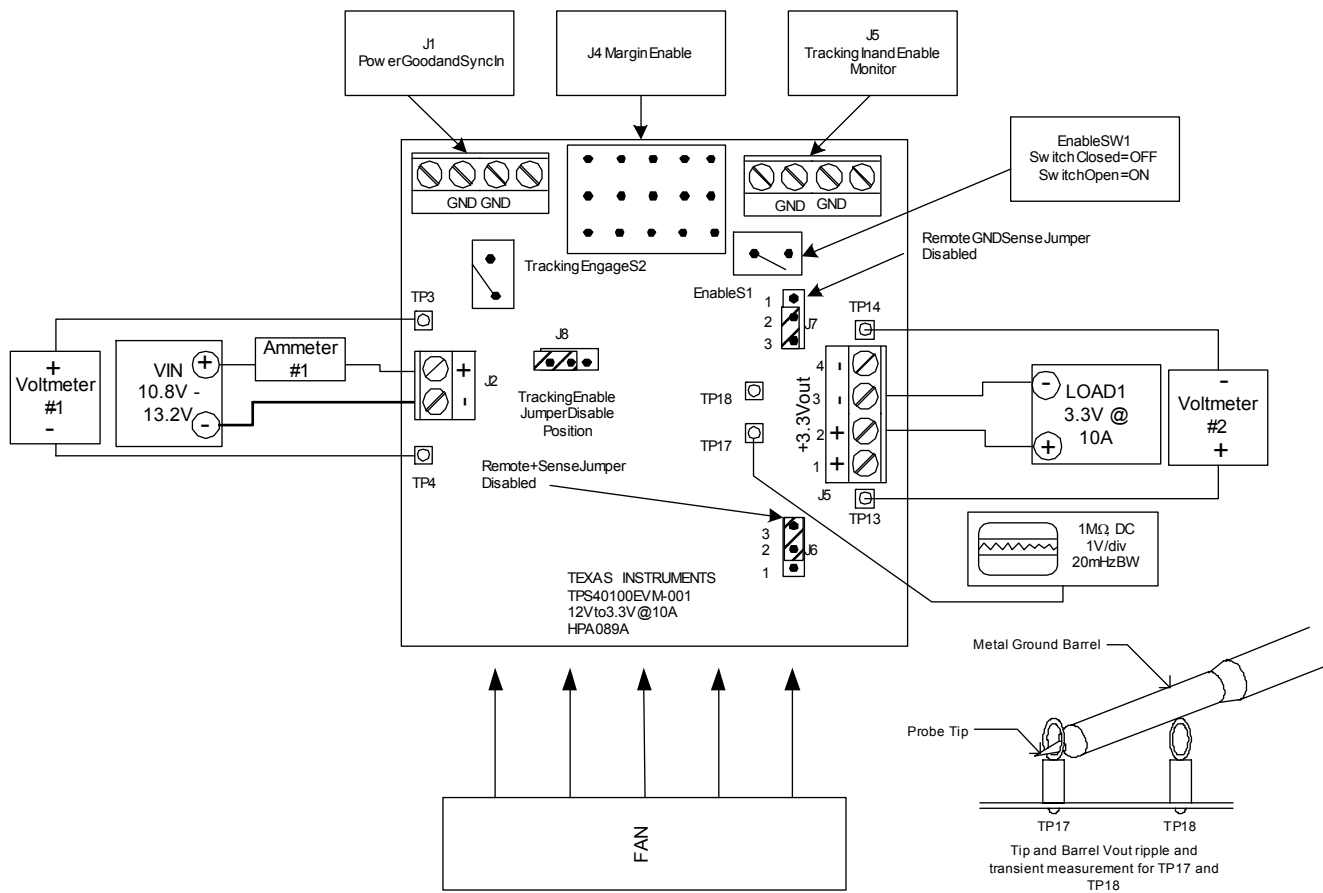
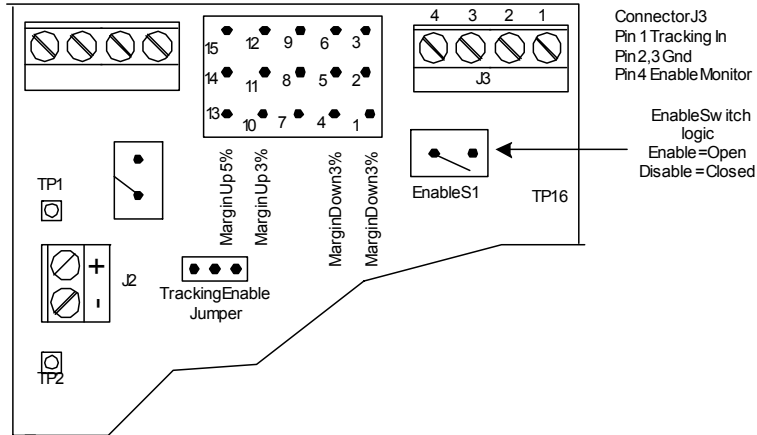
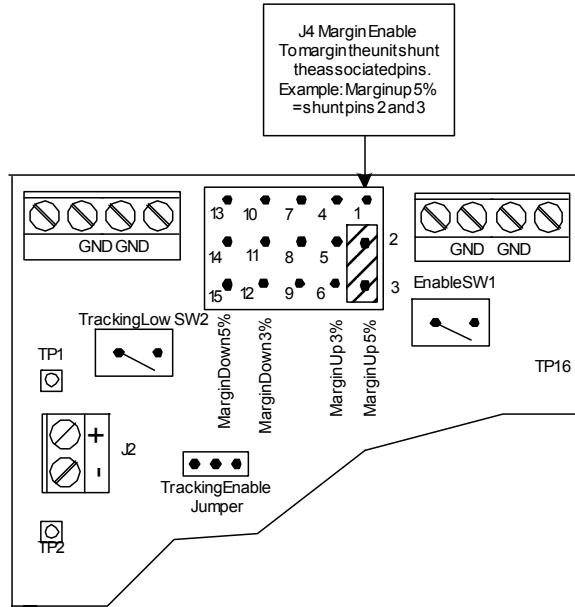

Figure 4: TPS40100EVM-001 Recommended Test Set-Up
Figure 10: TPS40100EVM-001 Enable Test Set-Up Test Set-Up
Figure 12: TPS40100EVM-001 Margin Test Set-Up
Figure 4 is the basic test set up recommended for evaluating the TPS40100EVM-001. EVM is shipped with the following in the default position:
2. Prior to connecting the DC input source, VIN, it is advisable to limit the source current to 5.0A maximum. Make sure VIN is initially set to 0V and connected as shown in Figure 4.
8. Place Fan as shown in Figure 4 and turn on, making sure air is flowing across the EVM.
To begin testing set up EVM according to Figure 4 in the test set up section of the users guide. The switch (ENABLE S1) provides the ability to enable and disable the device. Please see Figure 10 below for illustration. Closing S1 will disable the device by pulling the UVLO pin of the TPS40100 low. Opening S1 will enable the device, providing that the appropriate input voltage is present. J3 pin 4 is an enable monitor pin providing a connection for user observation.
To begin testing set up EVM according to Figure 4. Chose the margin level desired. Connector J4 pins 3,6,12 and 15 are designated pins that can be connected to adjacent Vin pins (2, 5, 11 and 14) of J4 to enable the desired margin level. Please see Figure 12 (Margin Test Set Up). Example: To margin the unit up 5%, connect jumper across pins 2 and 3 of J4.